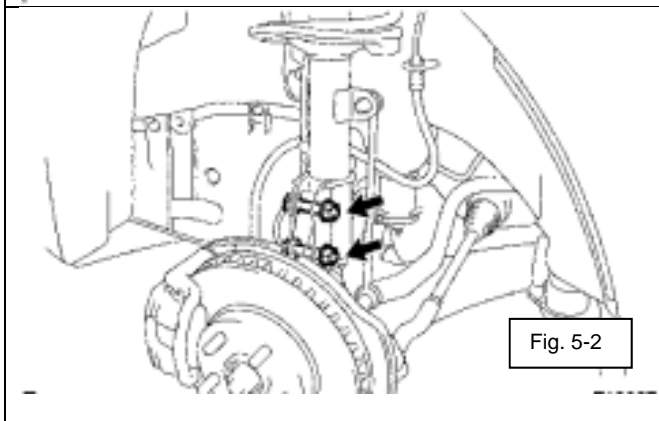

Fig. 5-2
- (b) Attach strut assembly to knuckle with 2 bolts and 2 nuts. Install bolts the same way they came off. (Fig. 5-2)